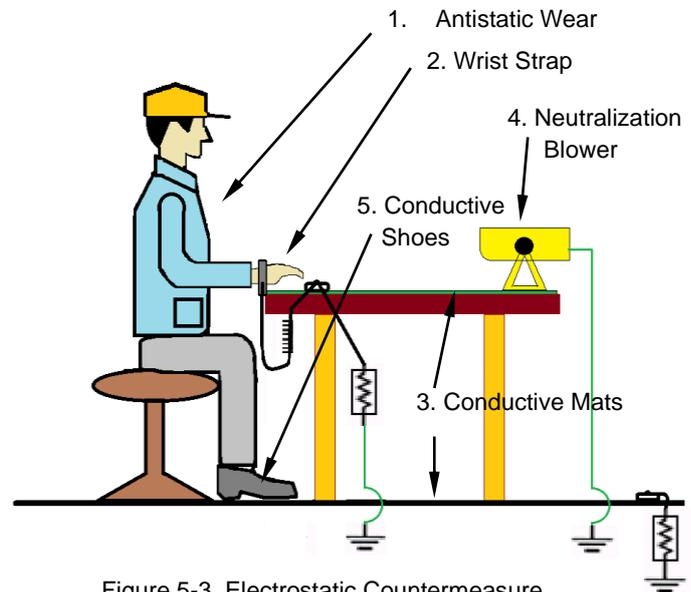

Figure 5-3. Electrostatic Countermeasure
- Place conductive mats (specific resistance of the surface: $10^5 \sim 10^8 \Omega/\text{cm}^2$) on the operation table and the floor around it and make sure to connect to ground. (Figure 5-3, 3: Conductive mats)
- Anti-electrostatic charge suite, conductive shoes, and wrist strap ($1\text{M}\Omega \pm 10\%$) should be properly worn or used by the operator. (Figure 5-3, 1: Anti-electrostatic charge suite, 2: Wrist Strap, 5: Conductive shoes)
- Setup neutralization apparatus on the operation table to operate the device in the ionic wind. Place conductive sheet, which is grounded, on the operation table. (Figure 5-3, 4: Anti-static blower)